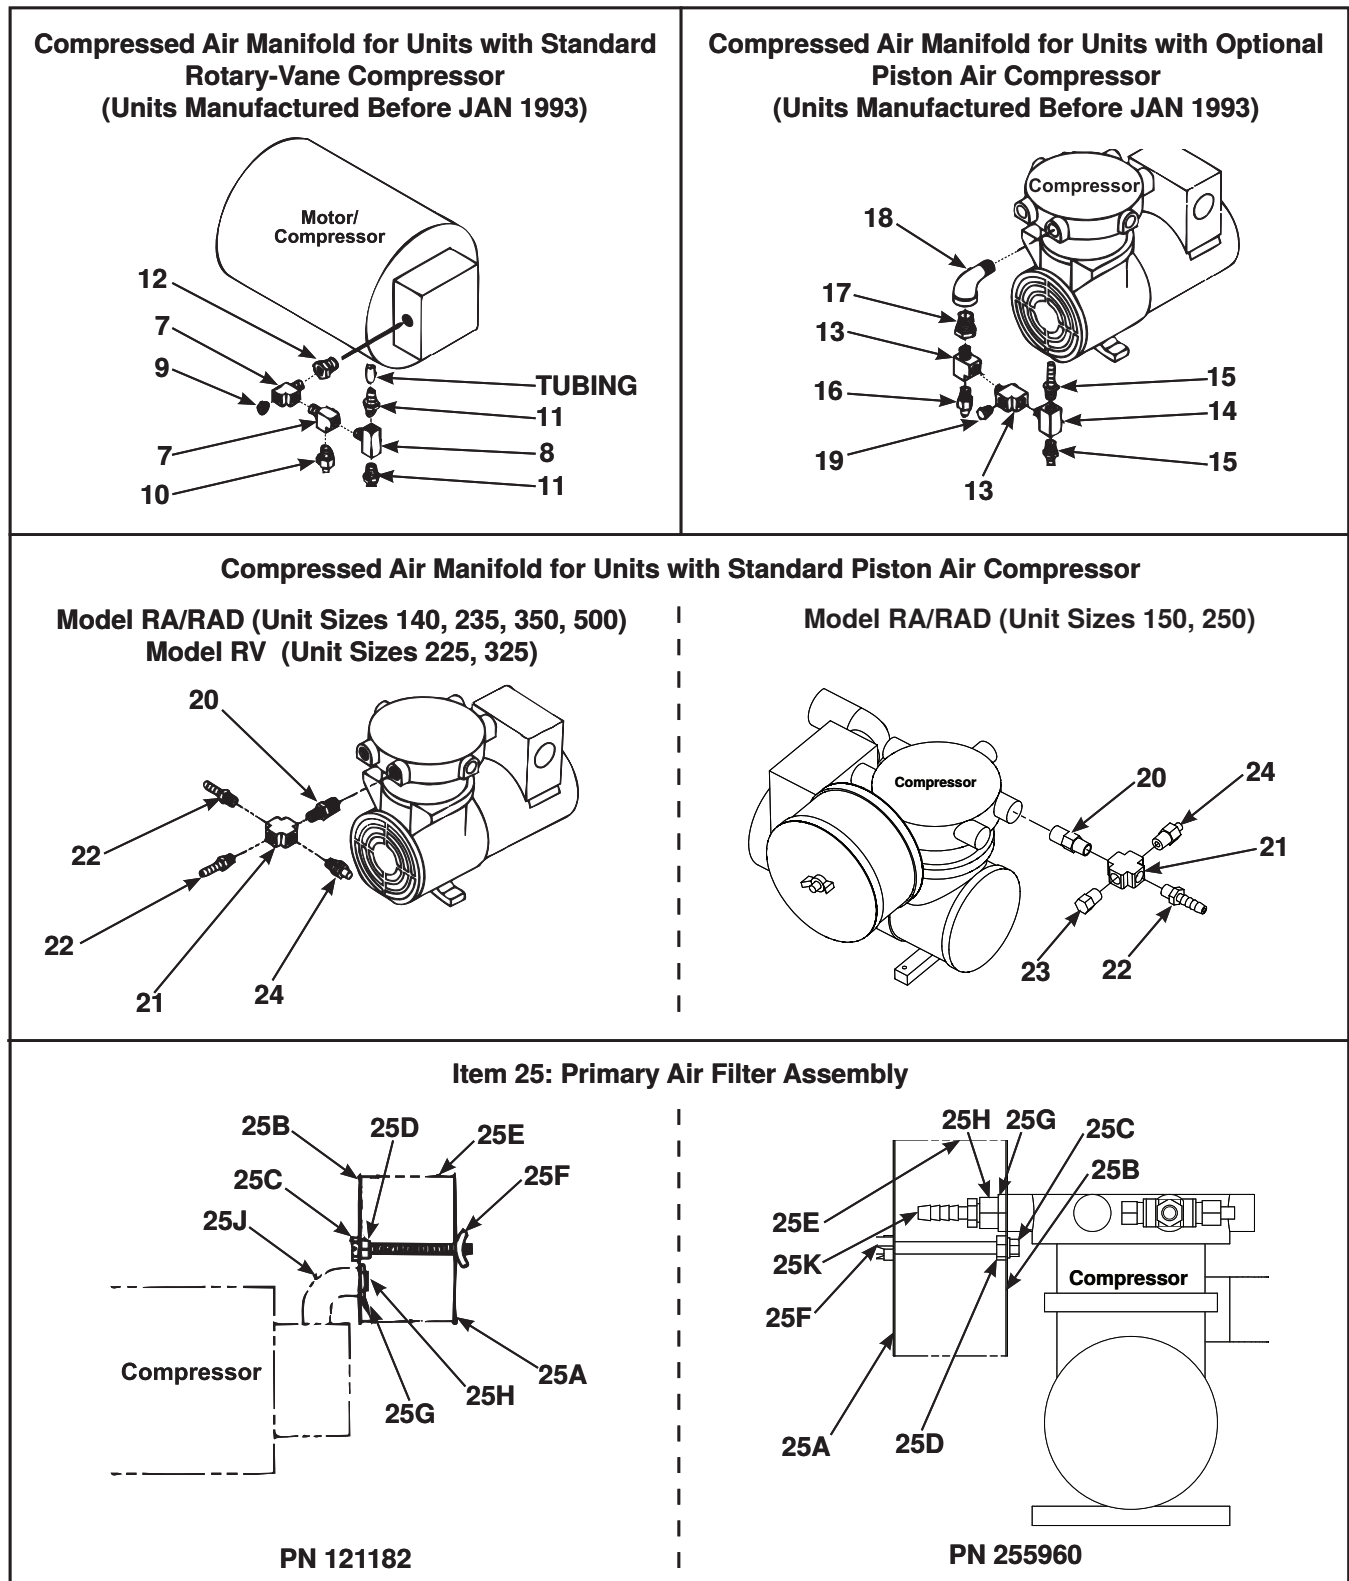

Figure 6. Compressed Air Manifolds and Primary Air Filter Assemblies (Refer to Table 7)
- Burner compressed air system components are shown in Figure 6 and listed in Table 7.